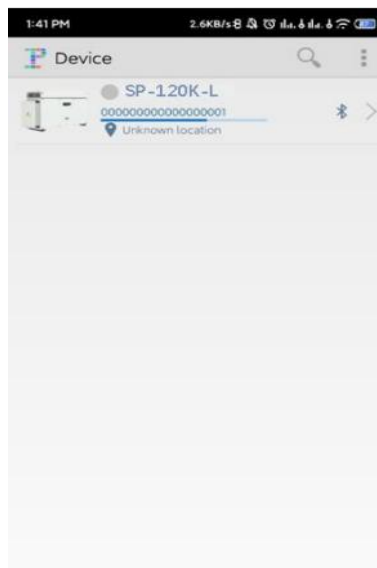

Figure 5-8 Device list
- (3) After a nearby device is found, you can tap the device to view its details, as shown in Figure 5-8.